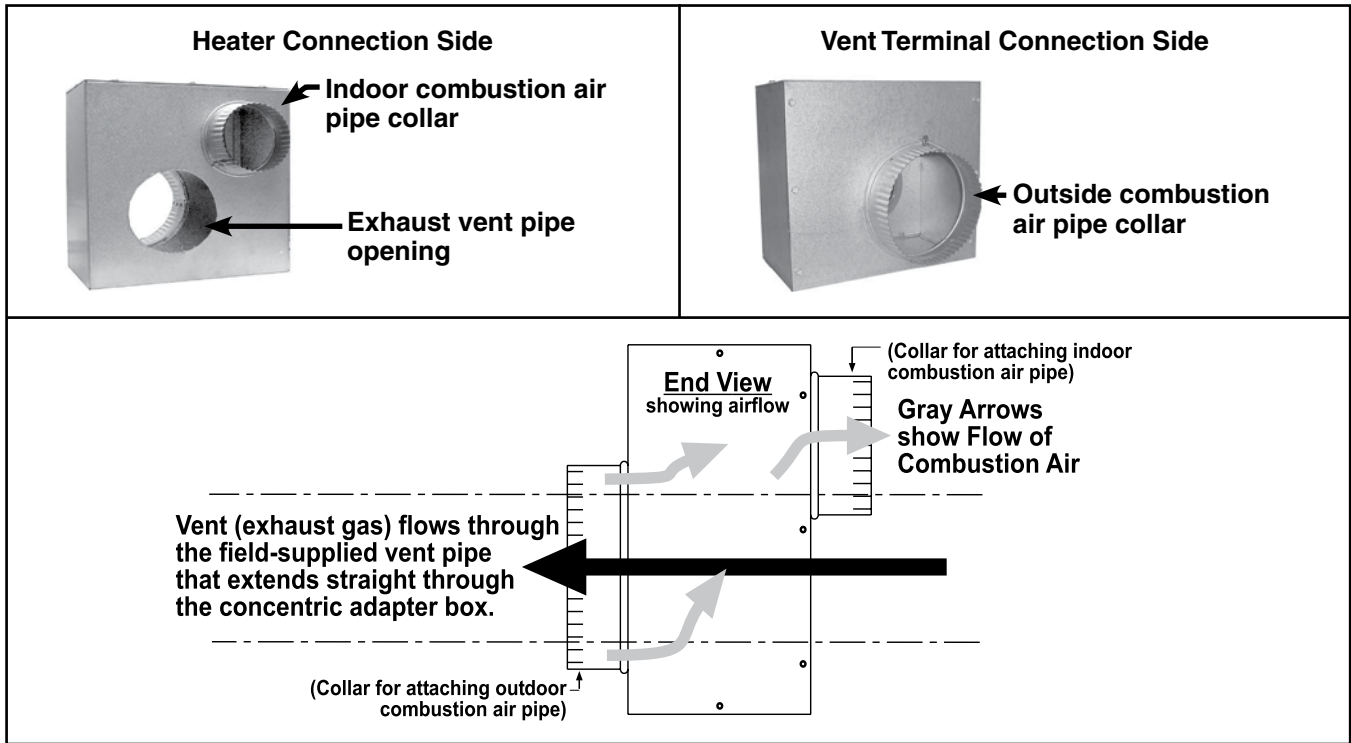

Figure 2. Concentric Adapter Box
- Figure 2 shows a typical concentric adapter box and its airflow.